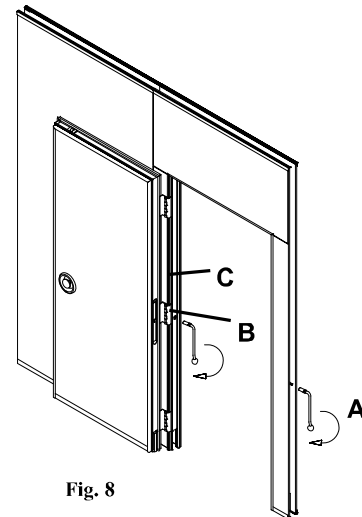

Fig. 8
U-Shaped (single style), Fig. 8: The pass door has two seals. One located in the same place as the basic panels (A) and the other located inside the door jamb (B). Set the (A) seal first by inserting the operating key over the seal mechanism as shown in Fig. 8, A. Turn the operating key until the floor seal is extended. This may take more than one turn. Next open the door and turn the seal mechanism located in the jamb (B) in the same way as you did for seal (A).
The pass door has a retractable bottom seal. To extend the door seal, locate the built-in handle in the door frame (C) shown in Fig. 8. Release the door seal by lifting on the bottom of the handle and then pulling it towards you. Next, pull the handle down towards the floor to the desired location. Pivot the handle back into the door jamb to lock the seal into position. Push the bottom of the handle back into the jamb. Be certain to return the handle to its correct stored position or it may interfere with, or damage, the door frame.